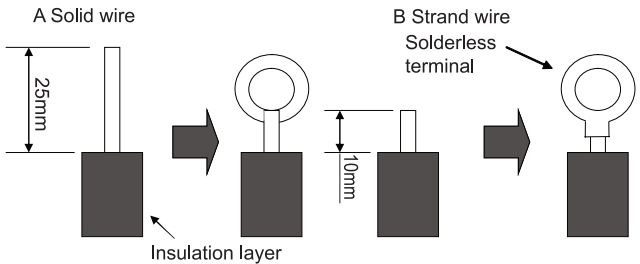

Fig.4.26
(1). For solid core wiring (Fig.4.26)
- (2). For strand wiring (Fig.4.26)